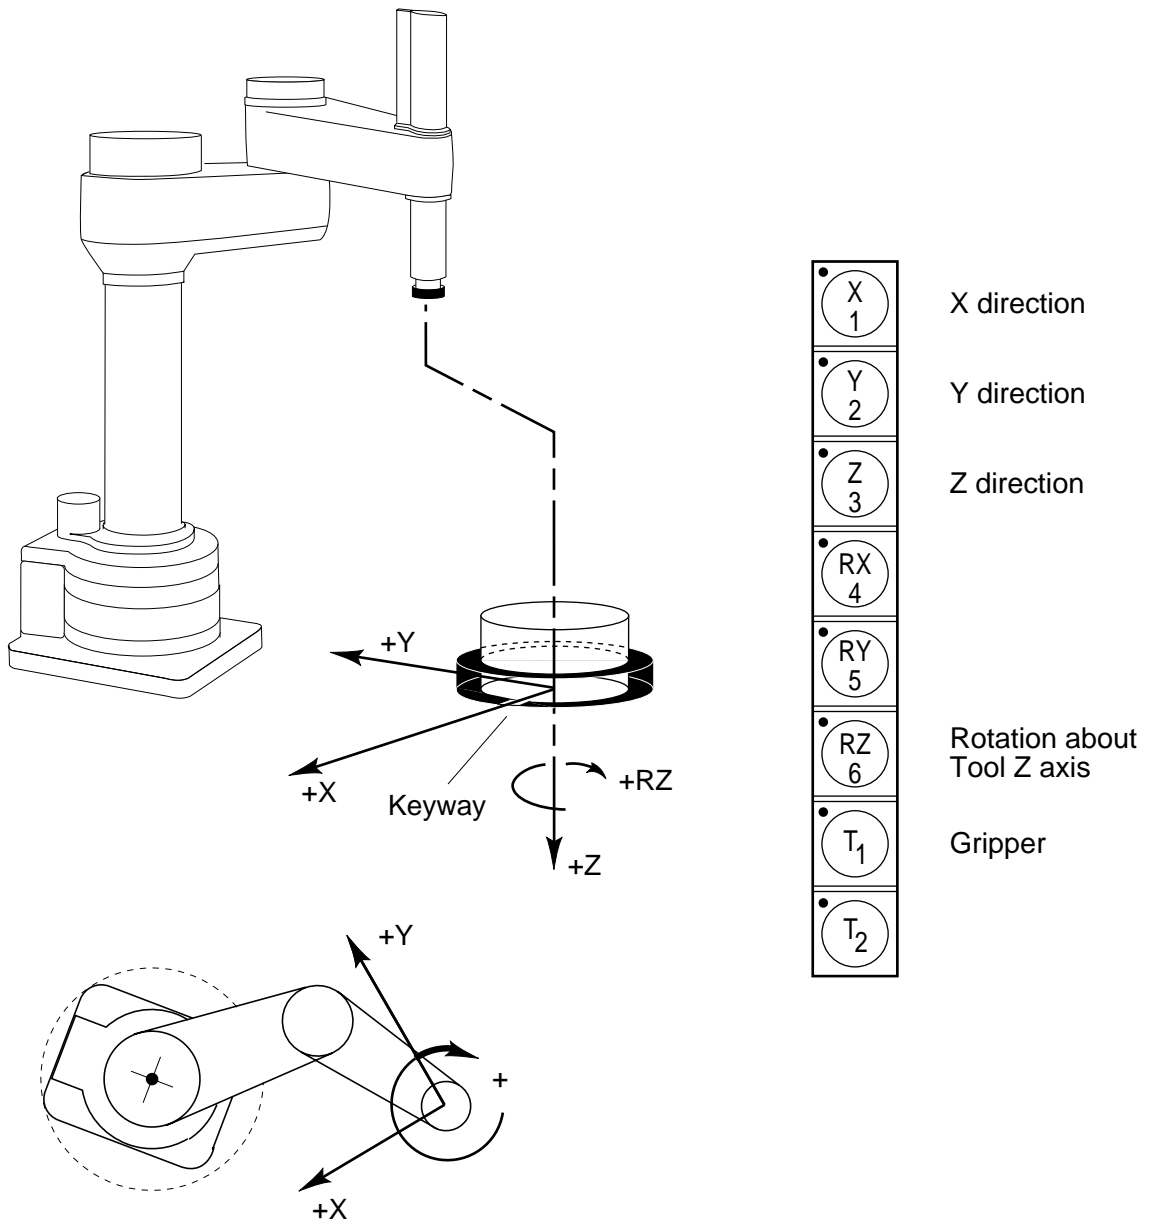
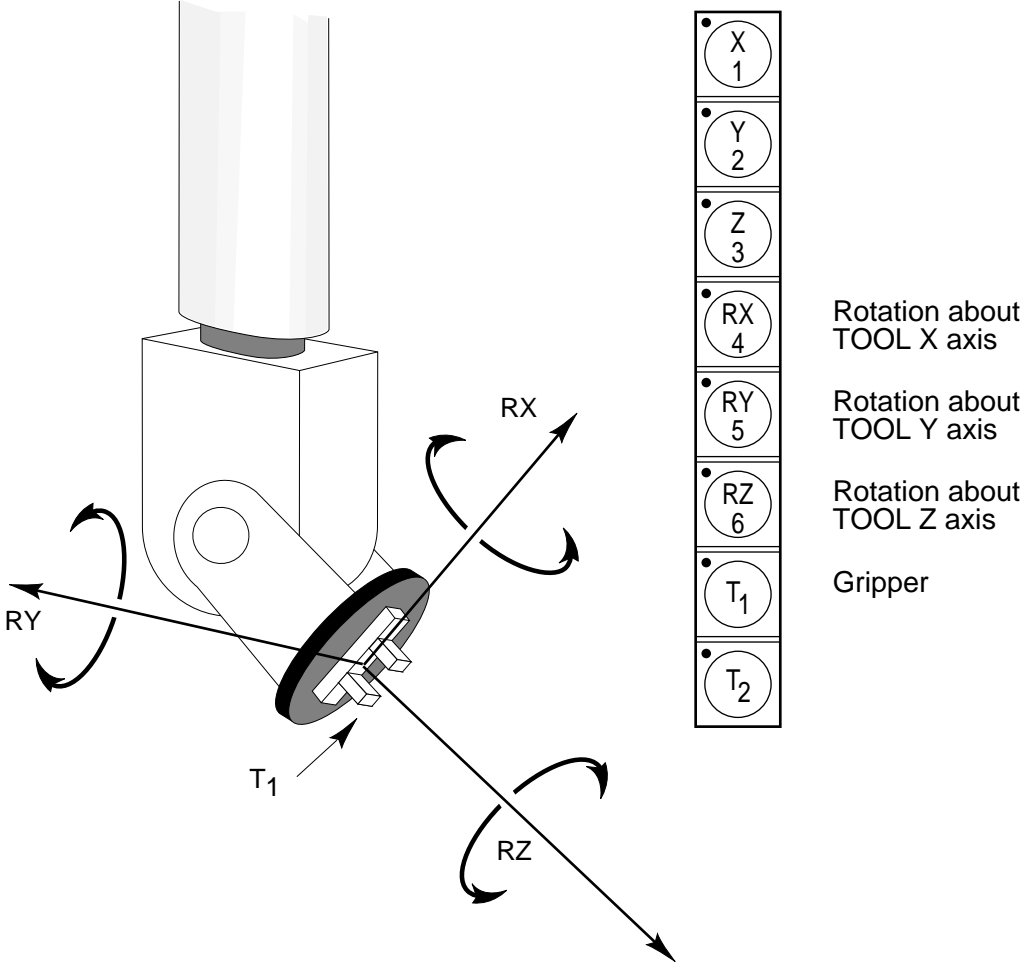

Figure 4-6. TOOL State
Figure 4-7. TOOL State (Six-Axis Robot)
In a four-axis robot, positive rotation of the gripper is clockwise as viewed from above. Figure 4-6 shows the tool state for a four-axis SCARA robot.
Figure 4-7 shows the tool coordinate system on a six-axis robot.
**NOTE:** Figure 4-6 and Figure 4-7 are drawn with the assumption that the TOOL transformation is set to NULL (all values are 0). If a TOOL transformation is in effect, the tool coordinate system will be offset and rotated by the value of the TOOL transformation. Any motion in tool state will now be relative to the offset coordinate system, and not the center of the tool flange. See the *V and V+ Reference Guide* for details on TOOL transformations.
The joint assignments in the free state are the same as the joint assignments in joint state. See Figure 4-7 for the joint assignments in a typical six-axis robot.